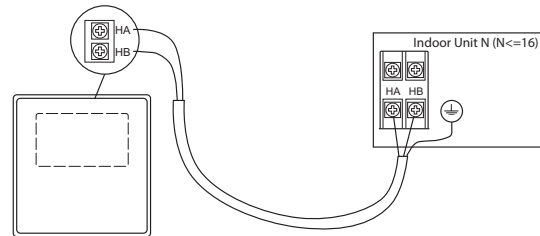
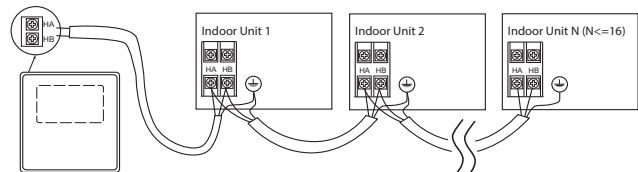

Fig. 5 — One-to-One Controller Connection
Fig. 6 — Group Controller Connection
8. Using 2-core shielded twisted pair cable, 16 to 20 AWG (American Wire Gage), attach the control cable to the HA/HB terminal on the unit and other end to the controller HA/HB terminal. For connecting the controller to a single indoor unit see Fig. 5. For connecting the controller to multiple indoor units see Fig. 6. Connect the shield/drain conductor of control wire to ground at the indoor unit; do not connect the shield/drain conductor at the controller.